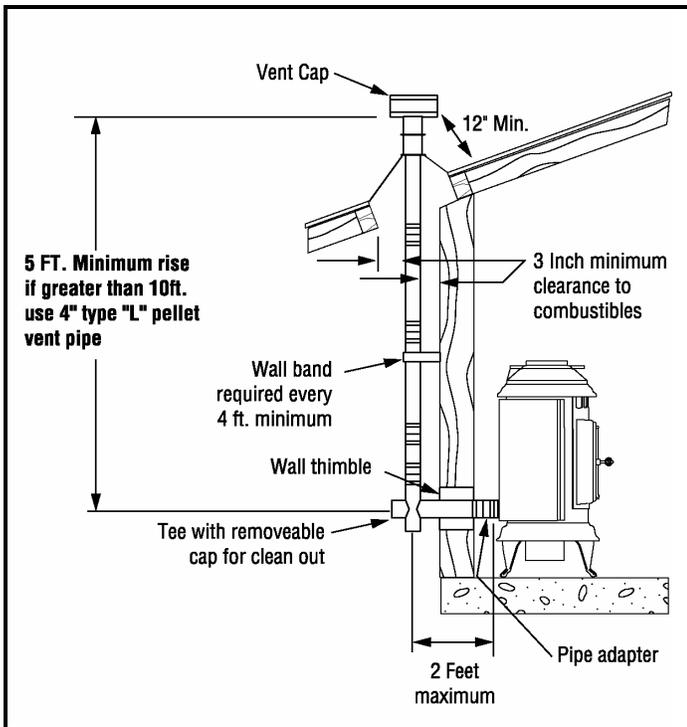

FIGURE 5
- a. When exiting through the wall with your Type "L" pellet vent pipe, you may go straight out through a wall thimble. You must connect a pellet vent tee at this point and extend the vent pipe at least 5 feet vertically outside to provide good draft and allow the gases to exit. The tee must have a clean out cap for inspection and regular cleaning (see Figure 5). Whenever the pipe run in any installation is 10 feet or more, the use of 4-inch Type "L" vent pipe is required. Horizontal runs must be limited to 2 feet. A wall band is required for every 4 feet minimum on a vertical run at an exterior wall.